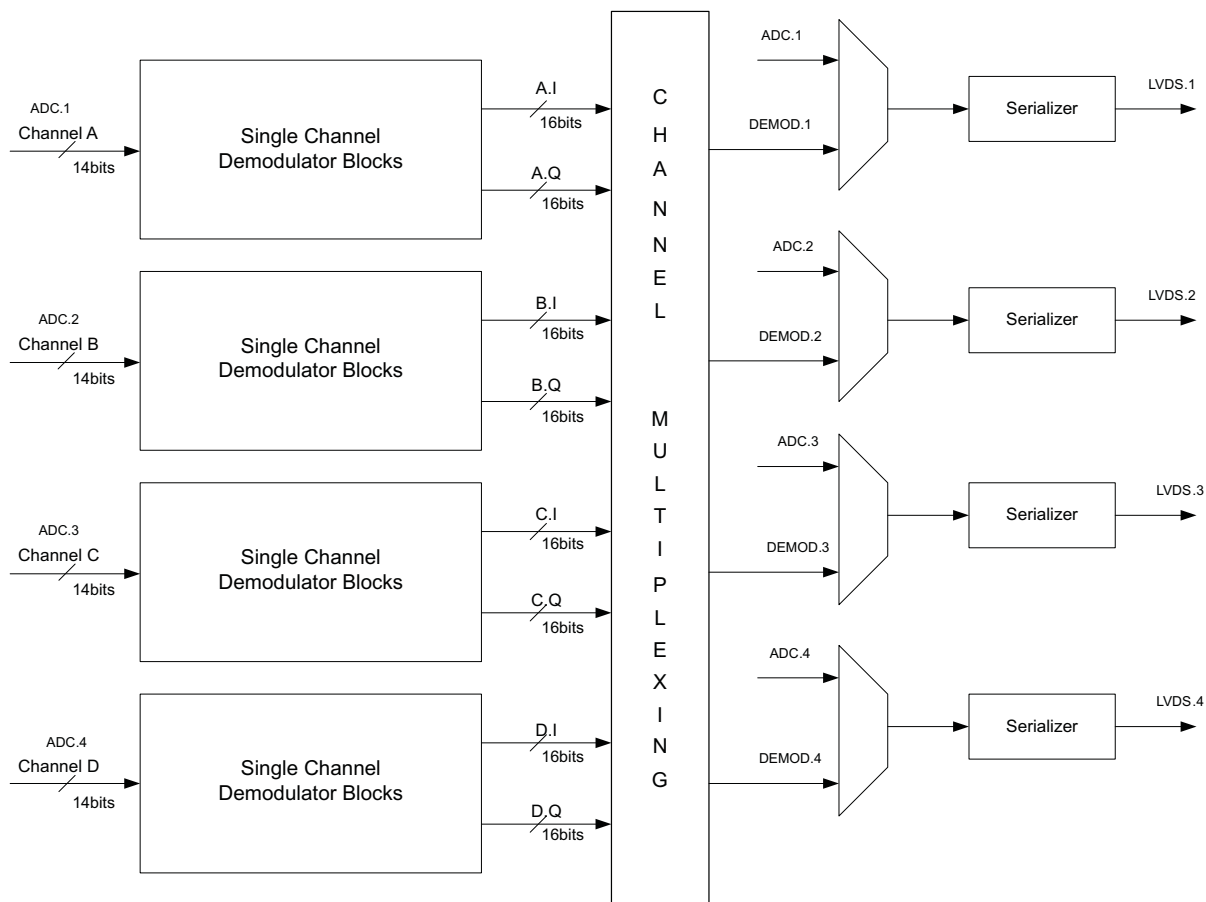

Figure 76. Channel Multiplexing
4. In Figure 76, channel multiplexing is implemented for flexible data routing: